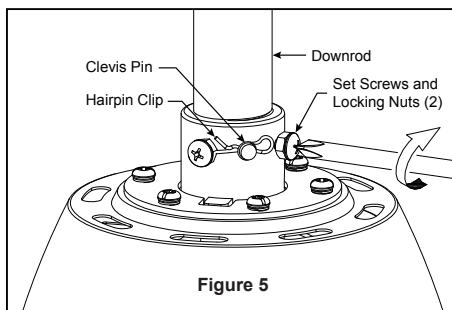

Figure 5
- ☐ 5. Thread downrod into the downrod support on top of the motor. Install the clevis pin by aligning the holes in the downrod support with holes in the downrod. Secure clevis pin with hairpin clip. Tighten the two set screws with nuts in the downrod support. Securely tighten the set screws with screwdriver then fully tighten the nuts by hex wrench. (Figure 5)